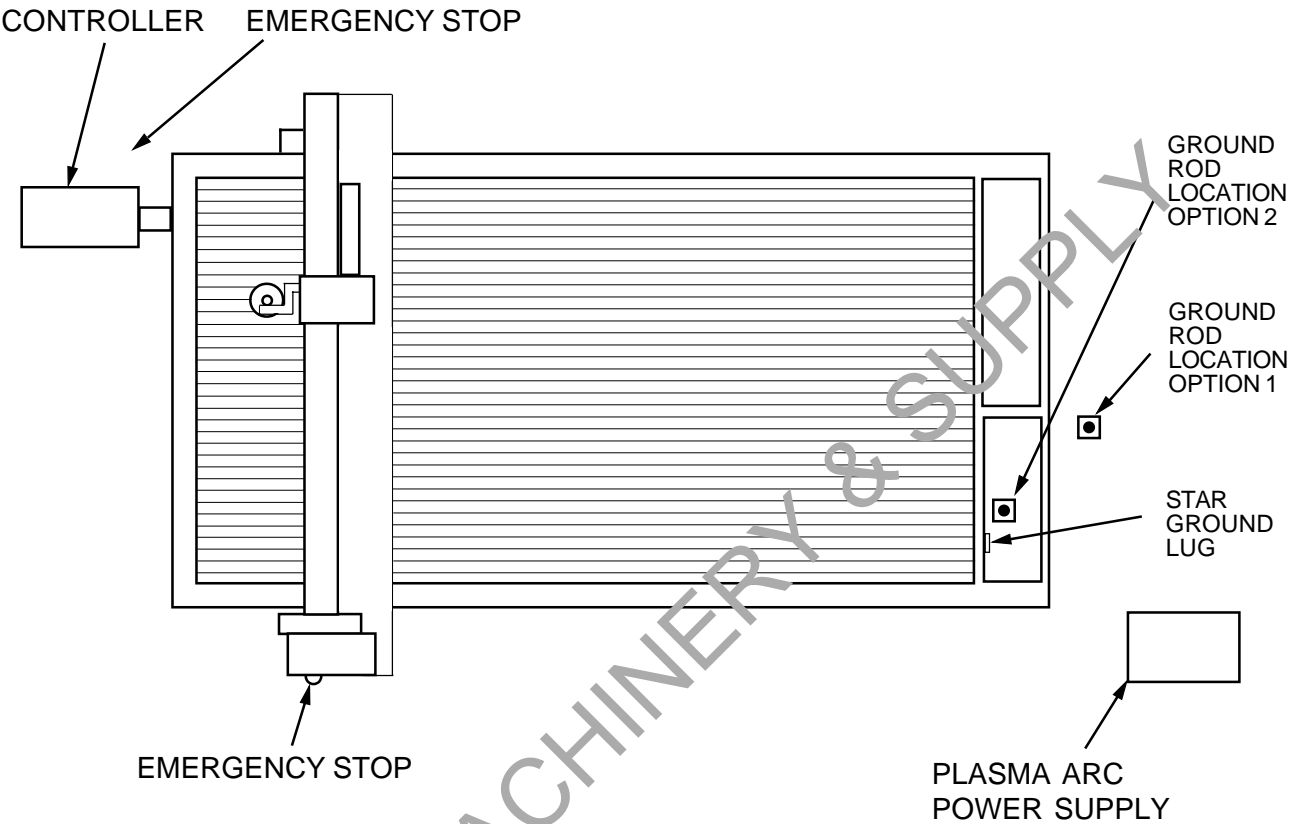

Figure 1
b. Install a copper ground rod into the floor (at least 8 ft. long and 1/2" in diameter) in close proximity to the STAR Ground, directly beneath it if possible. See figure 1 for recommended location options.